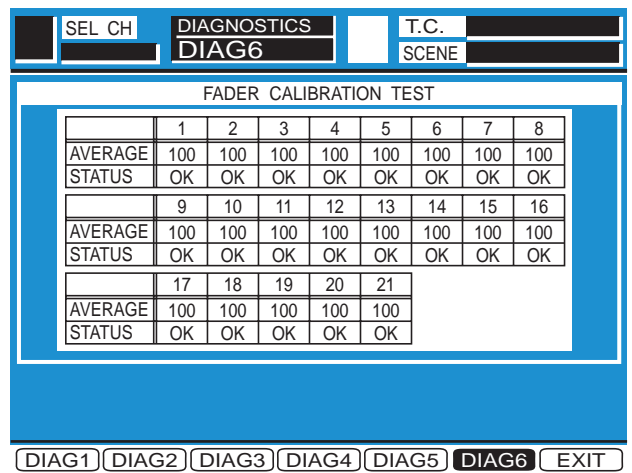

Fig. 5-6
- Press the Enter Key, the Diagnostic Menu 6 as shown in Fig. 5-6 is displayed.